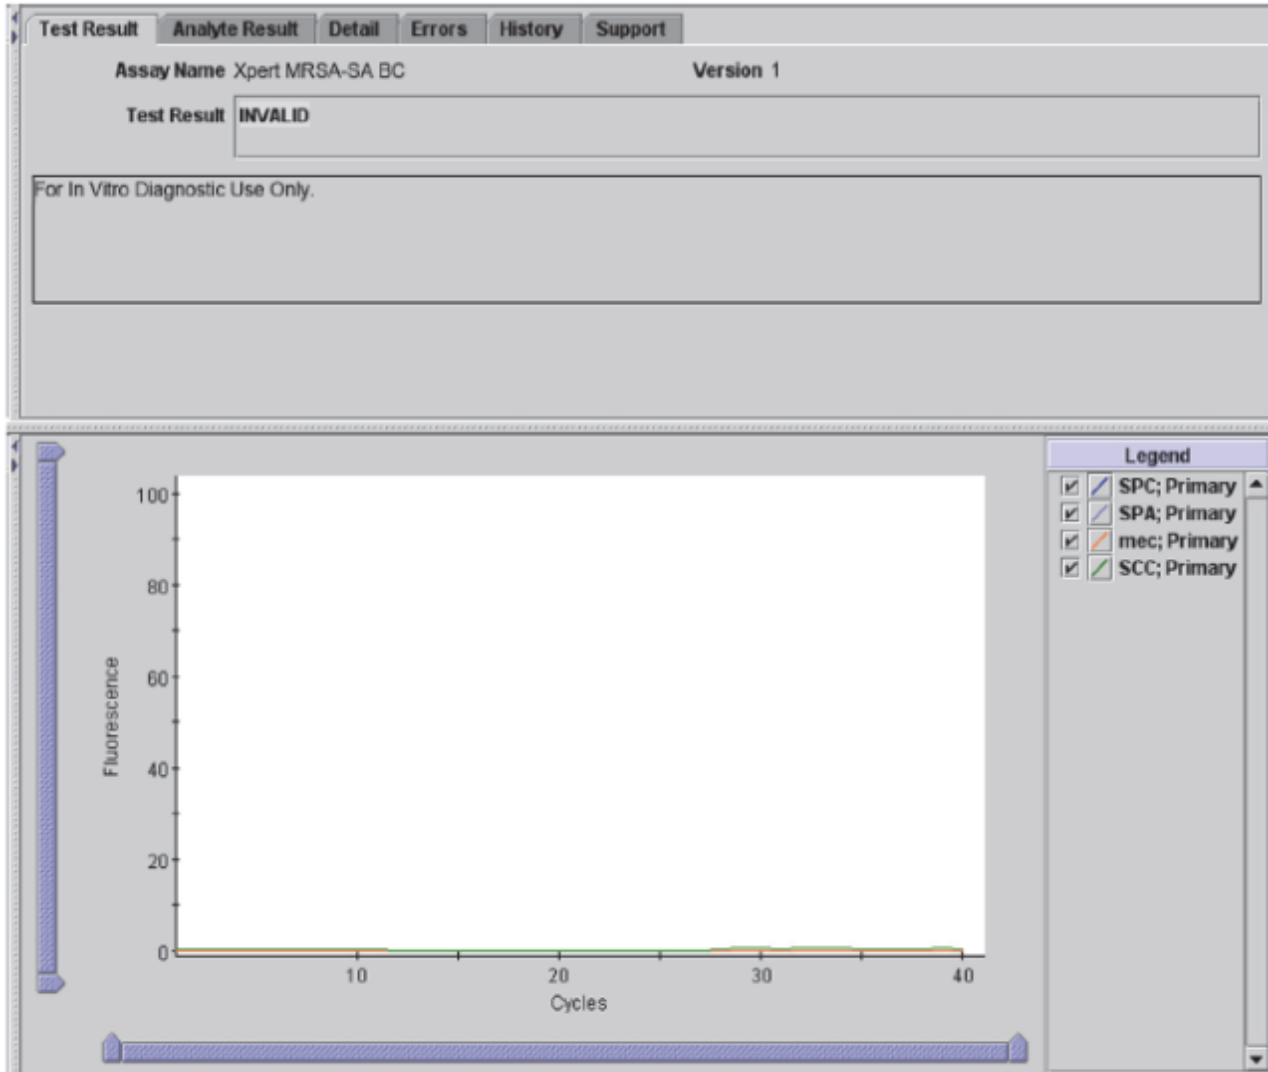

Figure 5. An Example of an Invalid Result
D. INVALID (FIGURE 5)**Tests resulting in INVALID will NOT be repeated.**